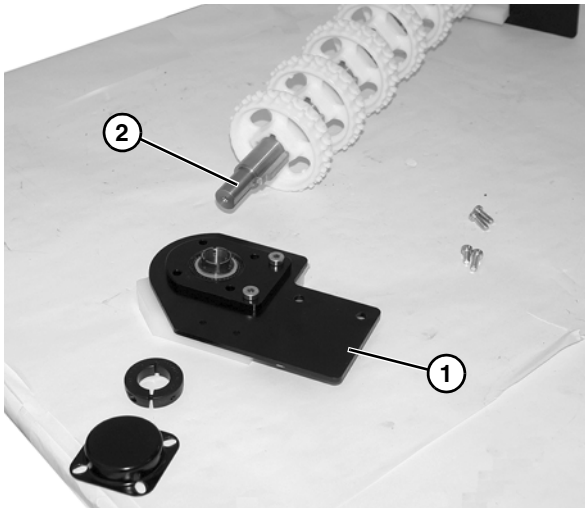

Figure 39
6. Remove end plate (**Figure 39, item 1**) from shaft (**Figure 39, item 2**).